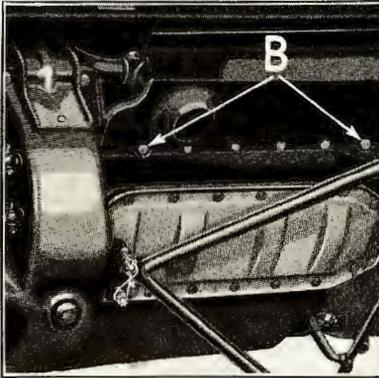

Fig. 27
- 24 **Remove engine pan-right** by loosening crankcase bolt and cap screw which holds pan to crankcase (See "B" Fig. 27) and withdrawing pan.